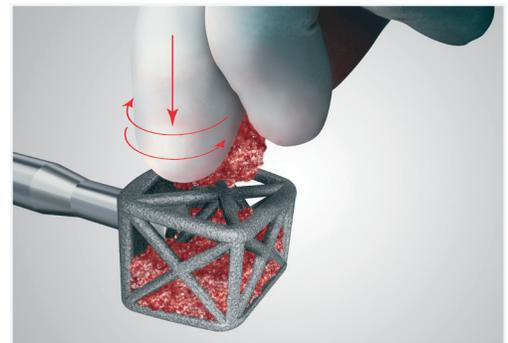

Figure 13
- ▲ Pack the implant with autologous and/or allogenic bone graft. For best results, cut or morselize the autologous bone into 1–2mm sized particles. Place the morselized bone into the top or bottom web structure (top and bottom are interchangeable). In a downward, circular motion, massage the bone particles into the implant (Fig. 13).